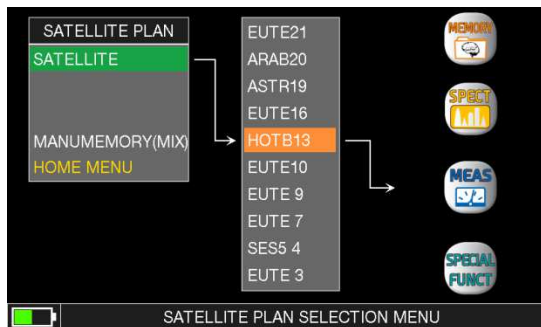
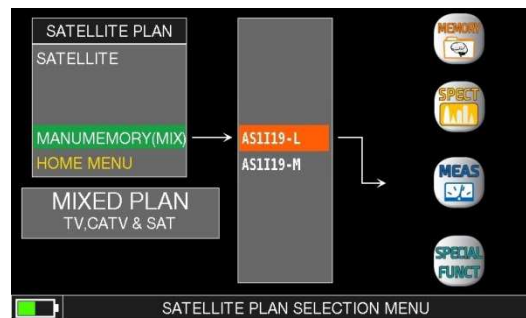

Fig.1 List of pre-memorized programme files. These cannot be edited on the meter but only on a PC with the SMART programme.
Fig. 2 List of user generated programme files. These can be created on the meter or on a PC with the SMART programme.
A logger is run against a MEMORY plan. A Memory plan is a file which contains a given number of programmes. These programmes may be transponders, TV MUXes or a combination of both. There are memory plans which are pre-memorized in your meter (ref. fig.1), these are the Satellite transponders, one file for every orbital position. There can be also MANUAL memory plans (ref. fig.2), which are defined by the user with any type of signal. A MANUAL memory plan can have SAT and TV programmes in the same file. The manual programme files may be generated on the meter itself or uploaded to the meter using the Rover SMART programme (ref. www.roverinstruments.com, SW update area).
Upload to your meter the “chn” memory plan available for the HD TAB 700 in the Rover web site section SW Update. There are two Memory plan files (CHN). The first one contains all transponders sorted by Polarization (H and V), this ease measurements when aligning a dish with a Wide Band LNB, there are two cables coming from an LNB, with one polarization each (Horizontal and Vertical). After uploading this file to your meter, it will show, in its name, an “L” as a suffix, that stands for LNB (Ref. fig.2).
The second chn file has all transponders sorted by frequency, this ease measurements when using a dCSS or dSCR Multiswitch output. After uploading to your meter, this Manual channel plan will show, in its name, an “M” as a suffix, that stands for Multiswitch (Ref. Fig. 2).
- Press the **PLAN** key and select one of the “chn” PLANs mentioned above, ref. fig. 2.